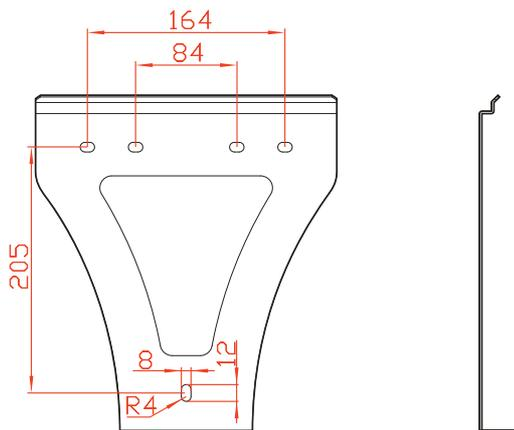
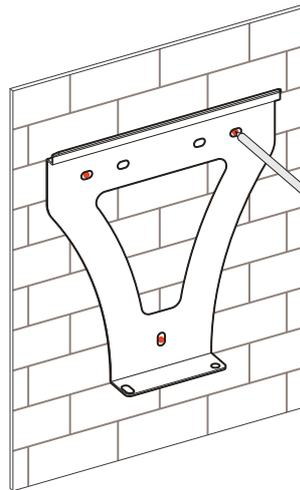

Figure3-7 Installation size (unit: mm)
Figure3-8 Mark the drilling position
Step 2 Mark the position of installation holes on the wall according to the dimensions of the fixing holes of the installation holder (as shown in Figure3-7), and drill 3 holes of $\Phi 10.5\text{mm}$ on the wall according to marked position, as shown in Figure3-8.